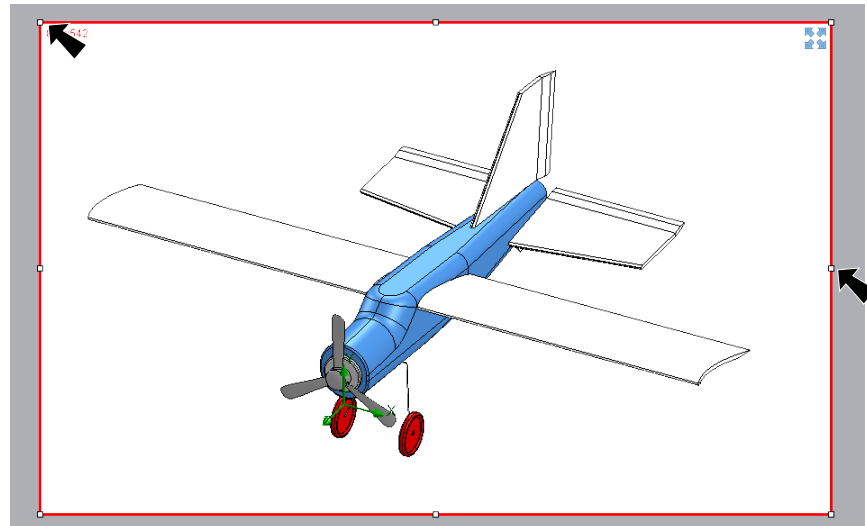

Fig. 38
Step 3. Drag the red frame capture region in the graphics area to resize and move capture region, Fig. 38.